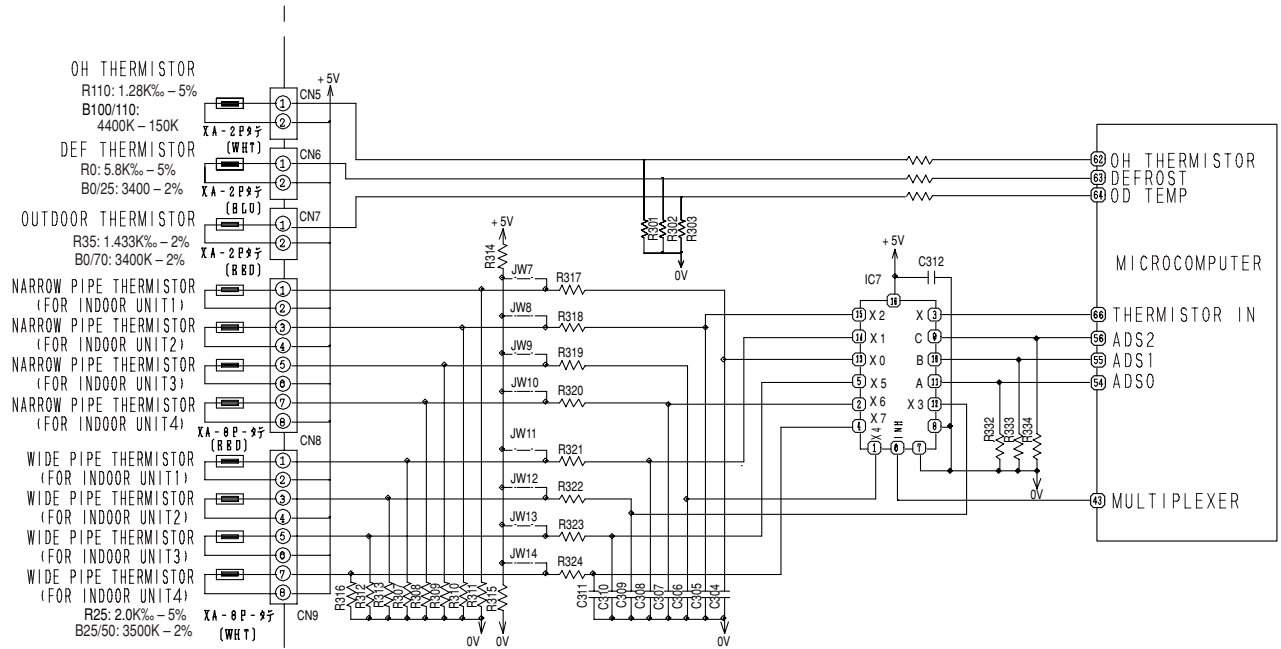

Fig. 10-1 Temperature Detection Circuit
- The circuit of the thermistors is shown as Fig. 10-1 for model RAM-72QH5 and their roles and temperature measuring points are shown as Table 10-1.